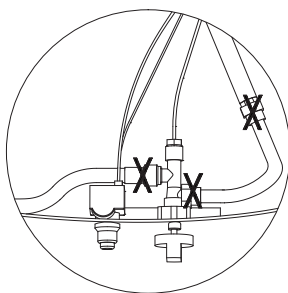

Figure 1
- Please refer to Figures 1 and 2 for proper installation.
- Spoon several drops of solution, or use a squirt bottle, at all “X” locations (figure 1 and 2 on the previous page).